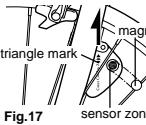

Fig.17
- Attach the magnet securely to the right side of the spoke (fig. 16) so that the magnet properly faces the sensor zone (fig. 17).